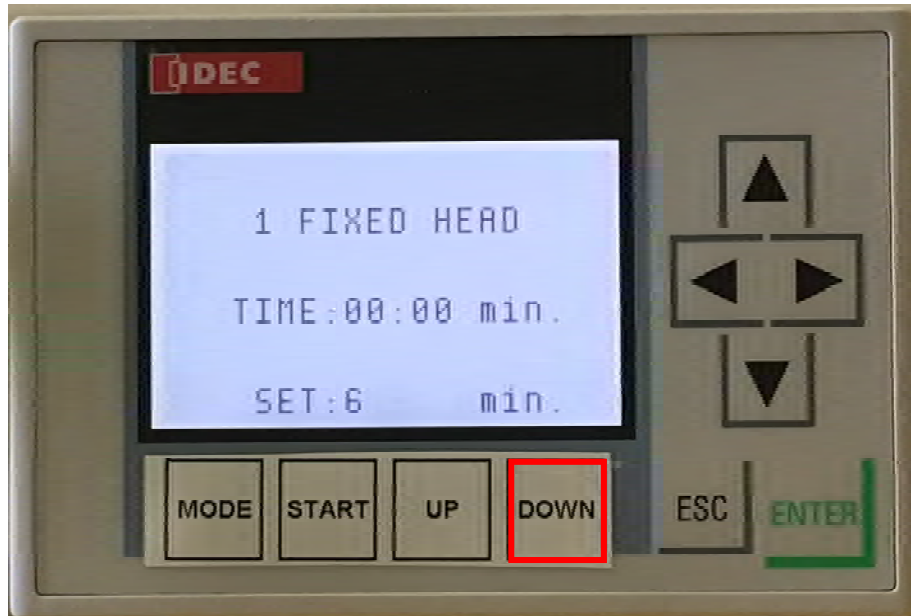

FIGURE 18
4.5.7 To decrease the amount of time, press DOWN. (Figure 18)